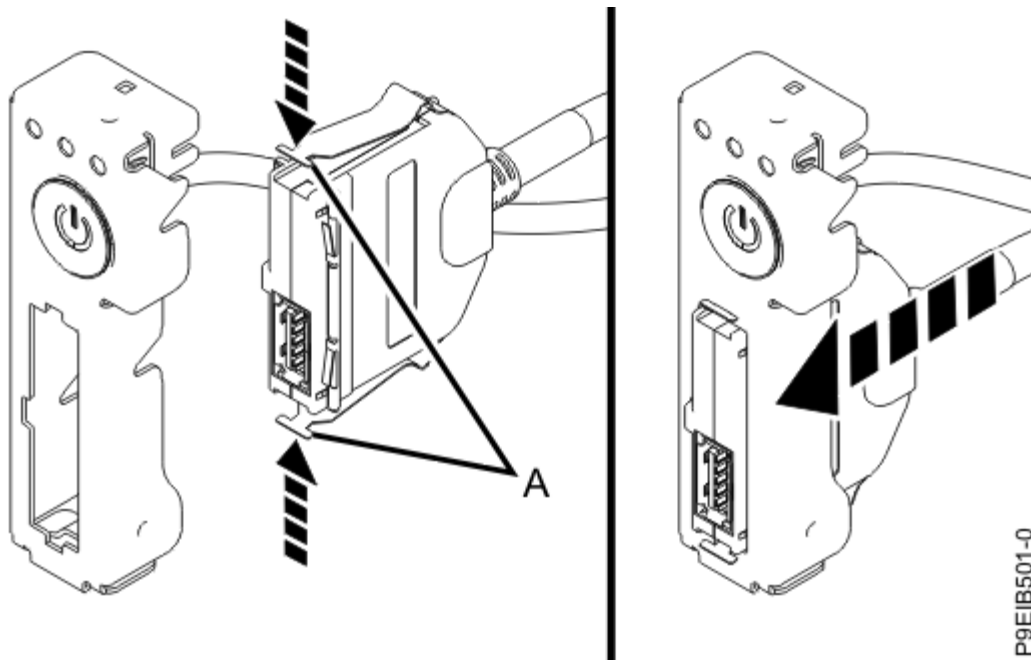

Figure 41. Attaching the USB cable and connector to the power switch
3. While you press the latches **(A)** in, connect the USB cable and connector to the power switch as shown in Figure 41 on page 56.